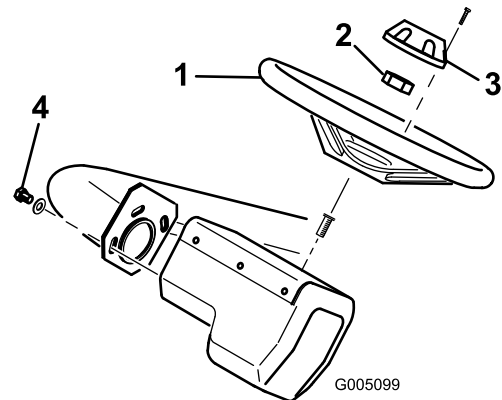

Figure 7
1. Slide the steering wheel onto the steering shaft and secure it with the jam nut (Figure 7). Torque it to 32 ft.-lb. (43 NVm).
2. Install the cap to the steering wheel with the screw (Figure 7).
Note: The steering wheel may be adjusted fore and aft for operator comfort by loosening the three mounting screws, pivoting the steering wheel to the desired operating position, and tightening the screws (Figure 7).